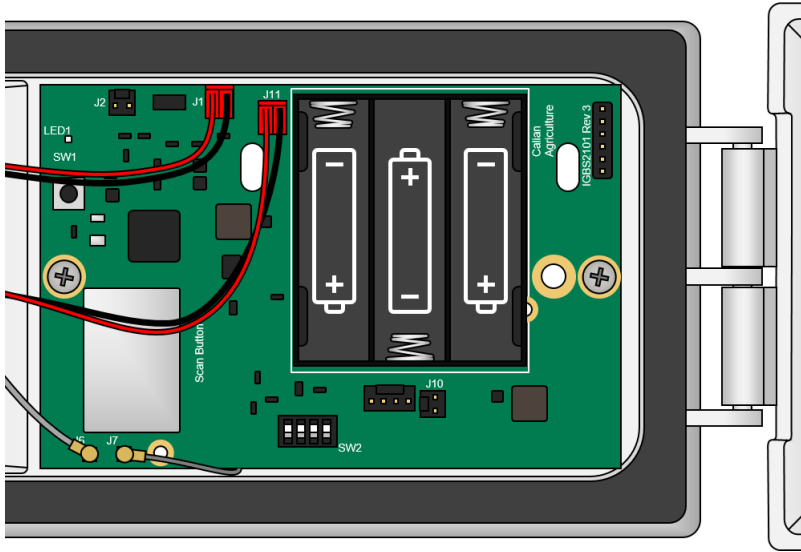

Figure 5: Remote Unit Battery Orientation
4. Install the new batteries following the orientation shown in figure 5. Use only Lithium/Iron Disulfide batteries.